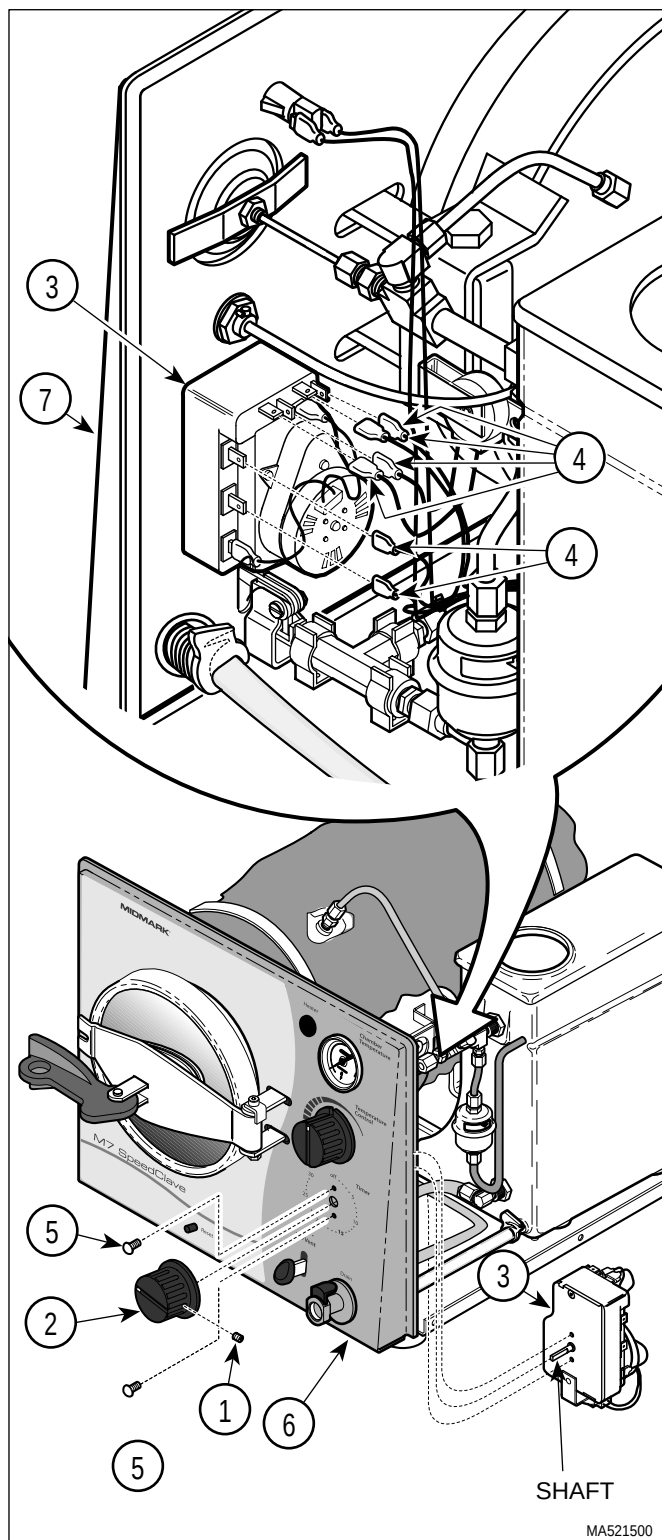

Figure 4-2. Timer Assembly Removal / Installation
- (2) Remove set screw (1, Figure 4-2) and timer knob (2) from shaft of timer assembly (3).
- (3) Tag and disconnect six wires (4) from terminals of timer assembly (3).